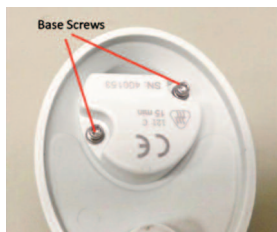

Figure 1: Screws on base connecting to body
1. Loosen the two captive screws from the bottom surface of the pipette base, using a 5/64" Allen Key, until you can pull the base from the rest of the body. (see Figure 1)